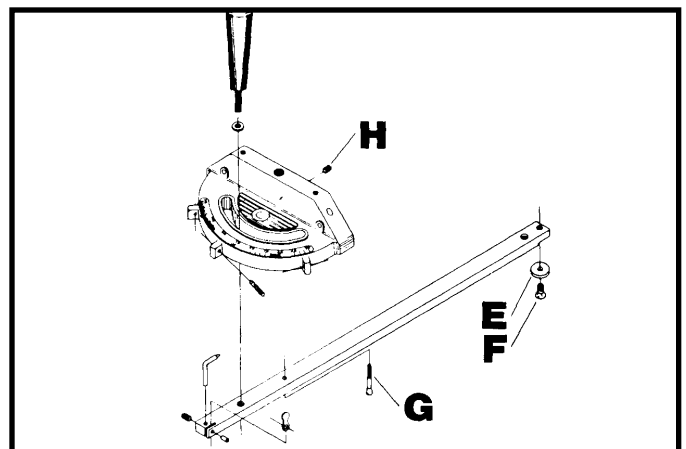

Fig. 51
The miter gage is equipped with a special washer (E) Fig. 51, and flat head screw (F), which are to be assembled to the end of the miter gage bar.
The head of the miter gage pivots on a special tapered screw (G) that fastens the head to the miter gage bar. If the miter gage head does not pivot freely, or pivots too freely, it can be adjusted by loosening set screw (H) Fig. 51, and turning the screw (G), in or out. Be certain to tighten screw (H) after adjustment is made.